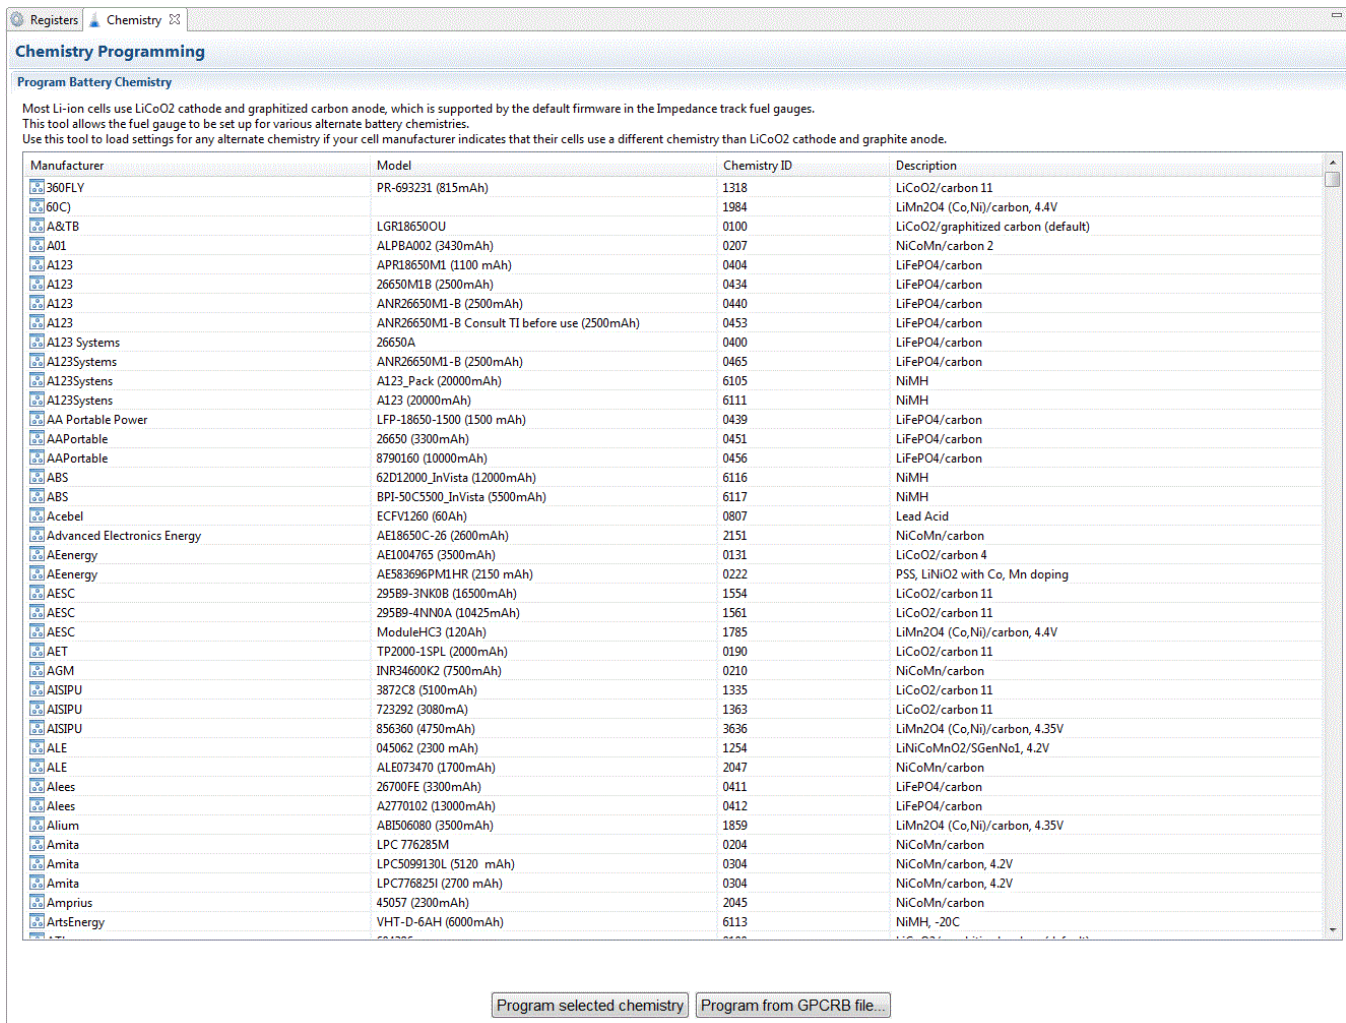

Figure 5. Chemistry Selection in bqStudio
- a. Look up the cell/pack in the TI database to see if there is an existing ChemID already available. To do this, use the bqStudio Chemistry tab with the latest chemistry plugin (<http://www.ti.com/lit/zip/sluc564>) as shown in Figure 5. To more easily search the database outside of the bqStudio GUI, the Chem.ini file can also be opened with a text editor. This file is located in the bqStudio program directory: C:\ti\BatteryManagementStudio\chemistry\